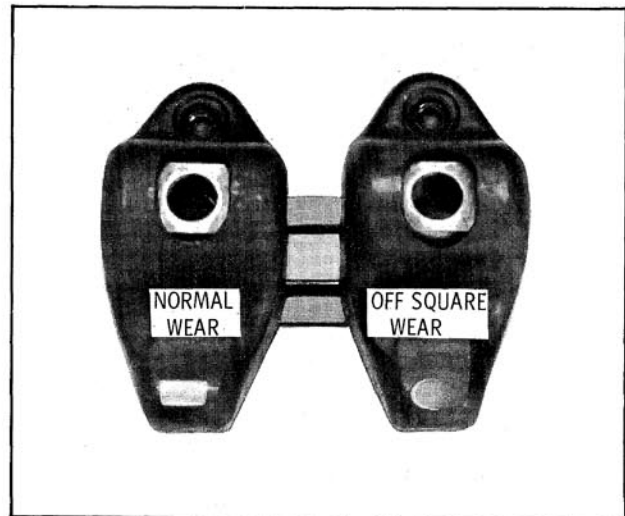

Fig. 3-61 Rocker Arm Wear
- b. Observe rocker arm pad for excessive wear or excessive off square. Replace as required. (Fig. 3-61)